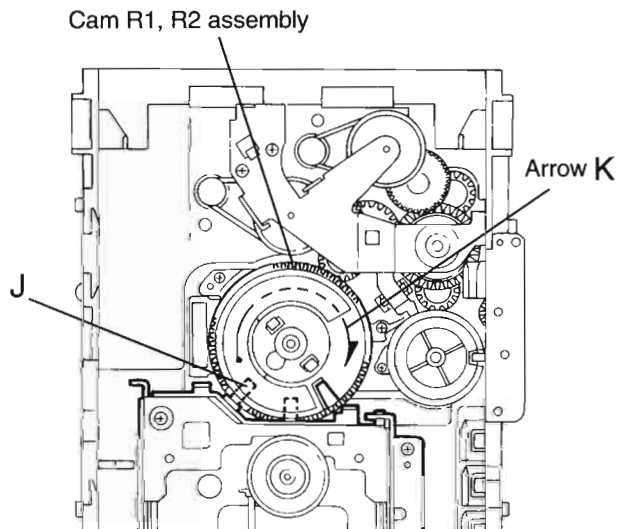

Fig.11
### ■ Removing the CD traverse mechanism (See Fig.11 and 12)
1. For dismantling only the CD traverse mechanism without removing the CD loading mechanism assembly, align the shaft "J" of the CD loading mechanism assembly to the position shown Fig.11 while turning the cam R1 and R2 assembly in the arrow direction "K".